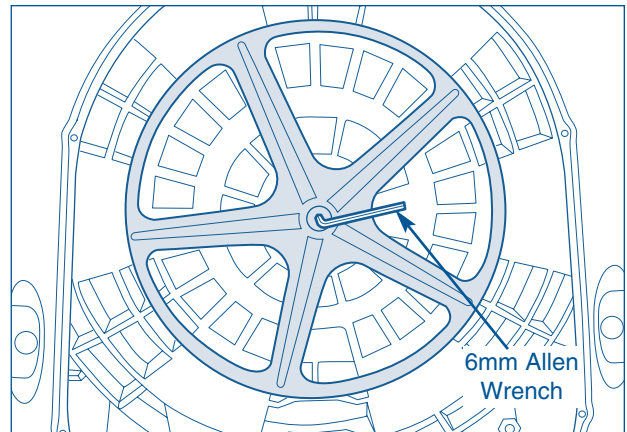

Figure 4-49.
2. Using a #6 mm allen wrench remove the bolt in the center of the pulley by holding the pulley and turning the bolt counter clockwise. (See Figure 4-49)